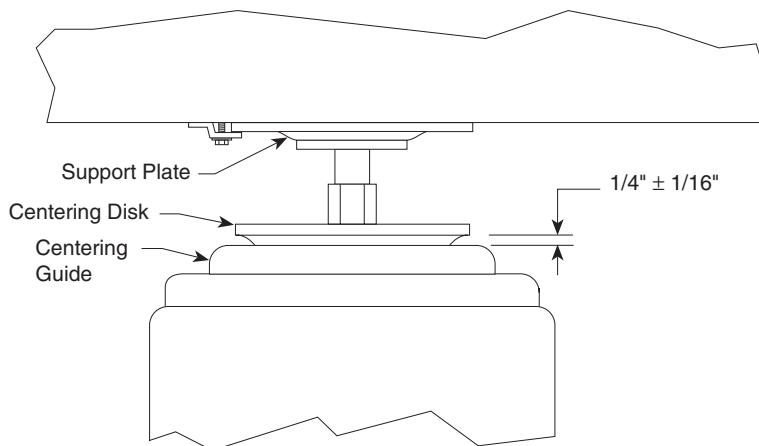

Figure 2.11 — Floating Height Adjustment
- A. After the table floats, check the position of the centering guide and flange of all isolators (Figure 2.11). The gap between the guide and flange should be $\frac{1}{4}'' \pm \frac{1}{16}''$ (6mm \pm 1.5mm).